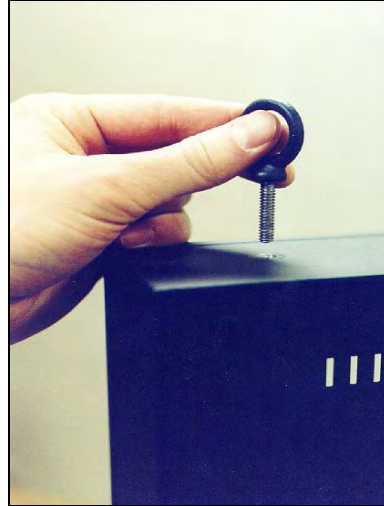

Figure 8: Eye Bolt Insertion
3. Insert the eyebolts in to the pre-drilled holes on the display (refer to **Figure 8**).